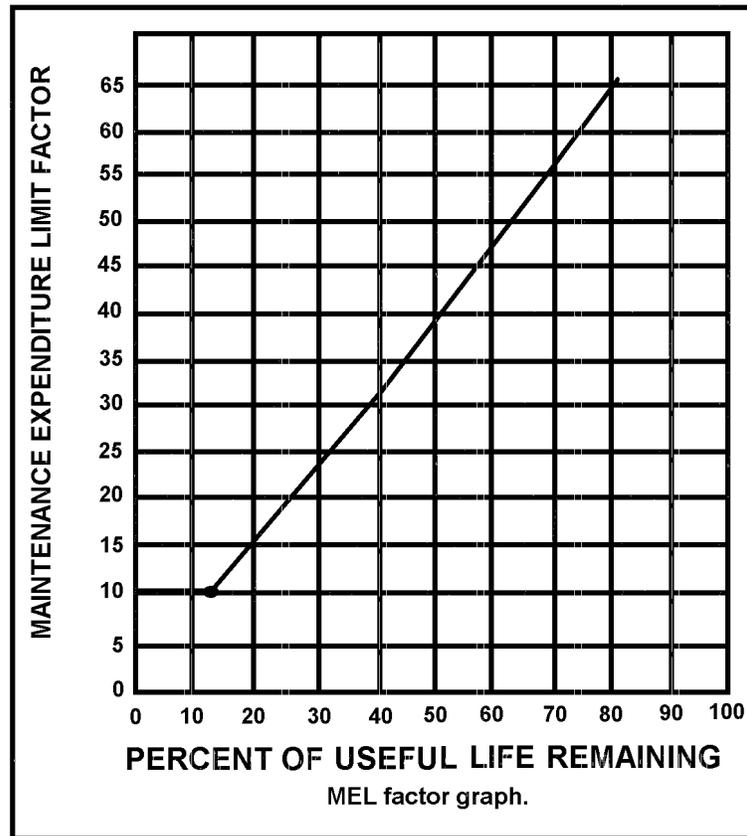

Figure 3-44
- c. Use the chart at Figure 3-44 to determine the MEL factor. Read up vertically from the percent of useful life remaining to a point of intersection with the baseline.